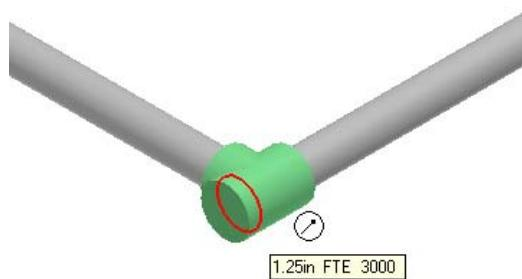

Figure 27: Selected Tee Port
70. Select the other Tee Port to start the conduit, as shown in the Figure 27.